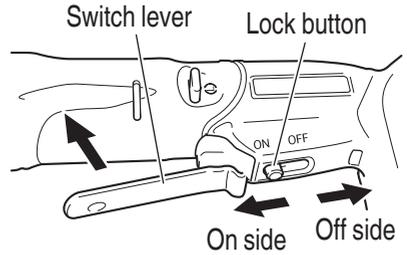

Fig. 8
- (1) The switch is turned on when the switch lever is pulled after having slid the lock button to the ON position, and is turned off when the switch lever is released. (See **Fig. 8**)
- (2) The rotational speed of the drill can be controlled by varying the amount that the trigger switch is pulled. Speed is low when the trigger switch is pulled slightly and increases as the trigger switch is pulled more.
- (3) Always make sure to return the lock button to the OFF position after using. (See **Fig. 8**)